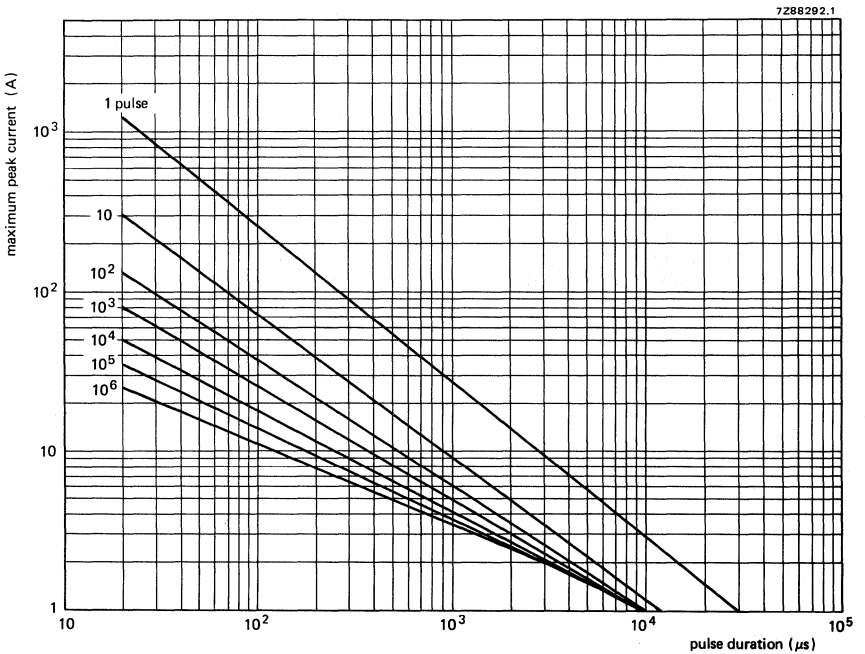

Fig. 3 Max. applicable transient current as a function of pulse duration.
- 5: A current impulse of 8/20  $\mu$ s (defined in IEC 60-2 section 6) is used as a standard for impulse current and clamping voltage ratings. The transient energy is given for one impulse applied during the life of the component. Figure 3 gives the derating for different numbers and longer duration of impulses. The shift of the varistor voltage does not exceed  $\pm 5\%$ .